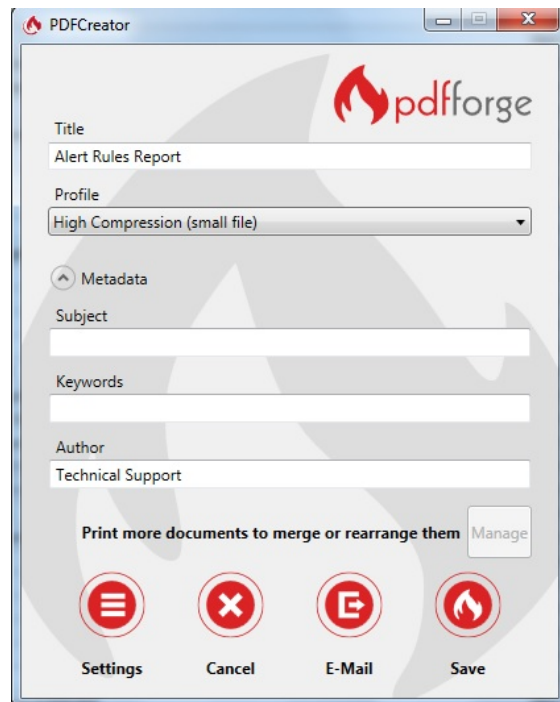

Figure 3: PDFCreator pop-up
10. The **PDFCreator** pop-up will appear (See Figure 3). **NOTE:** if the **PDFCreator** pop-up does not display, it may be that Auto-Save was enabled in PDFCreator.